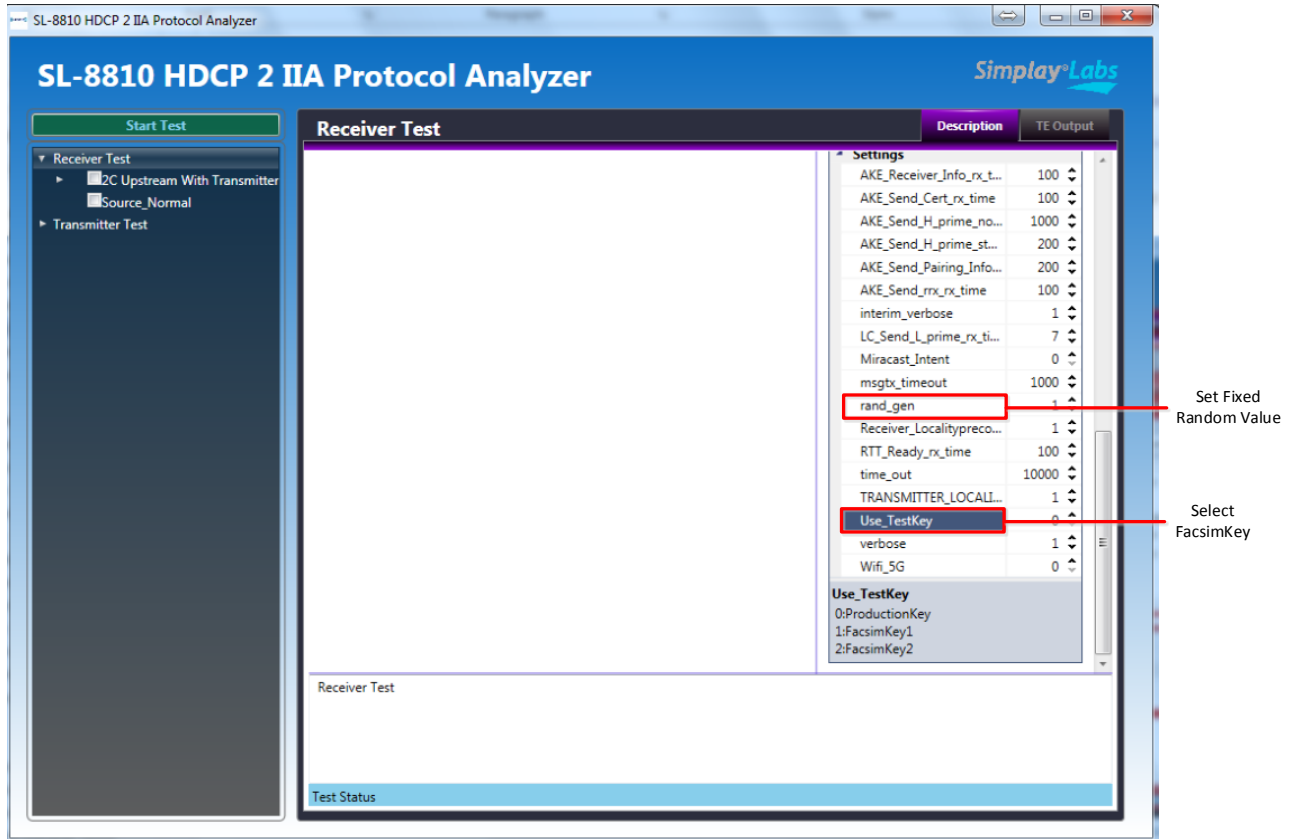

Figure 1.9. Facsimile Keys Support
4. Facsimile Keys Support (optional selection) (Figure 1.9).